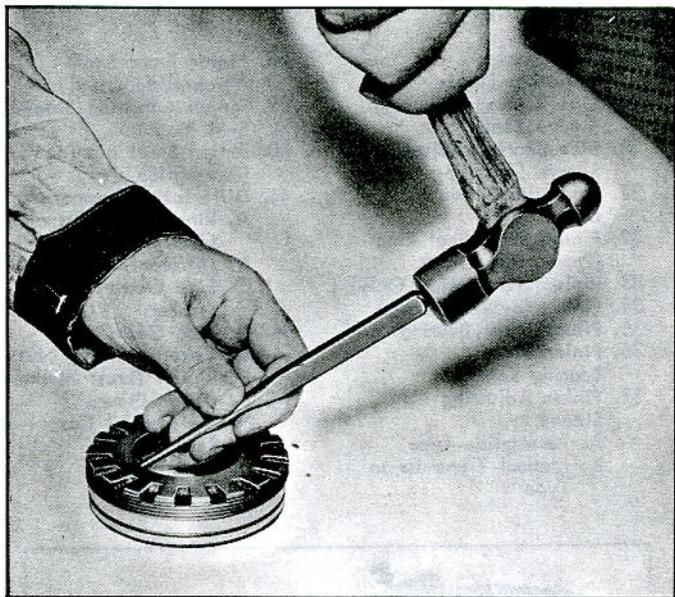

Fig. 22—Removing Pinion Front Bearing Race from Pinion Adjusting Sleeve
1. Remove old race with a punch as illustrated (fig. 22). On automatic transmission models, it is necessary to remove the seal.